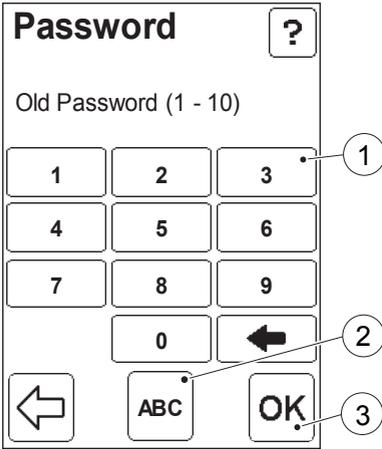

FIGURE 4-50
- Password (See *FIGURE 4-50*)
Not Used : The Operator ID cannot be entered at startup. An Operator may perform all functions except the password protected functions (see FIGURE 4-50).